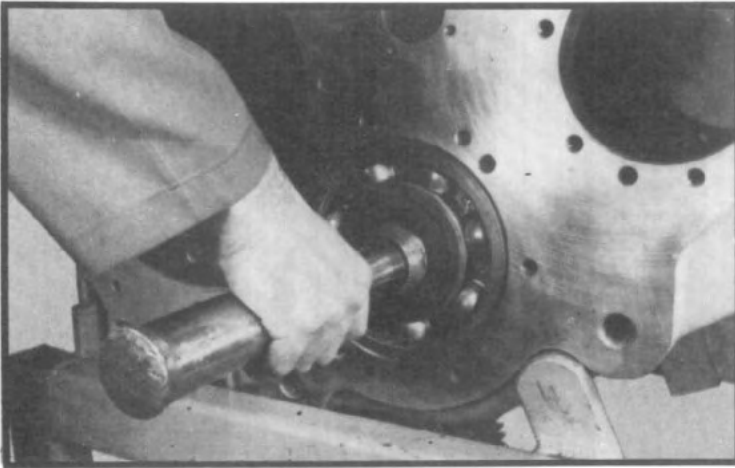

Fig. 78
4. Place a block of wood between the direct drive gear and inside of housing and drive out the intermediate shaft including the front bearing, using a suitable driver on the rear of the shaft. (See fig. 78.)